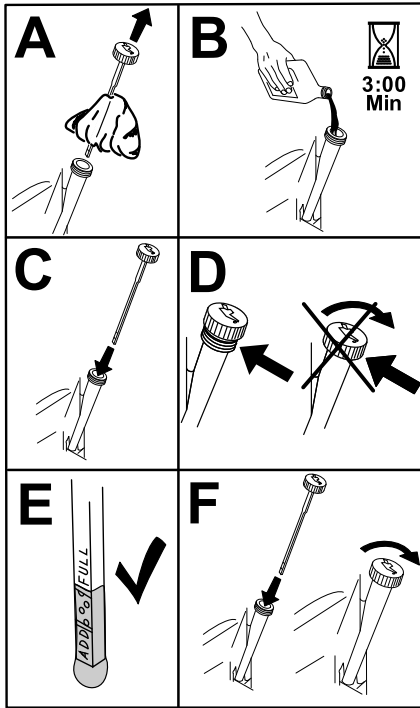

Figure 53
- Slowly pour approximately 80% of the specified oil into the filler tube and slowly add the additional oil to bring it to the **Full** mark (Figure 53).